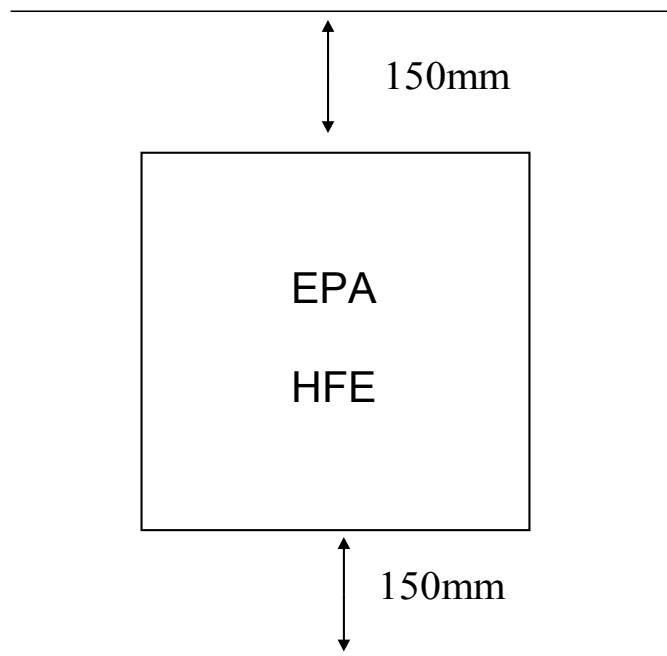

Figure 22: 150mm free space above and below
- Observe 150mm free space above- and below (see figure 22).